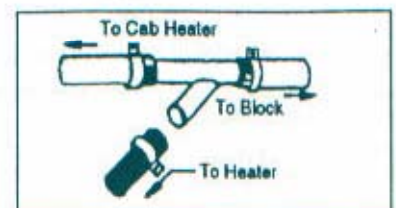

Figure 9 - Y-Fitting
1.3.4 **Outlet** (top connection) - Near the engine block, cut heater hose from passenger compartment heater to engine block inlet, slip on hose clamps and insert Y-fitting as per Figure 9. Connect the heater outlet tube to the remaining opening on the Y-fitting then tighten hose clamp.